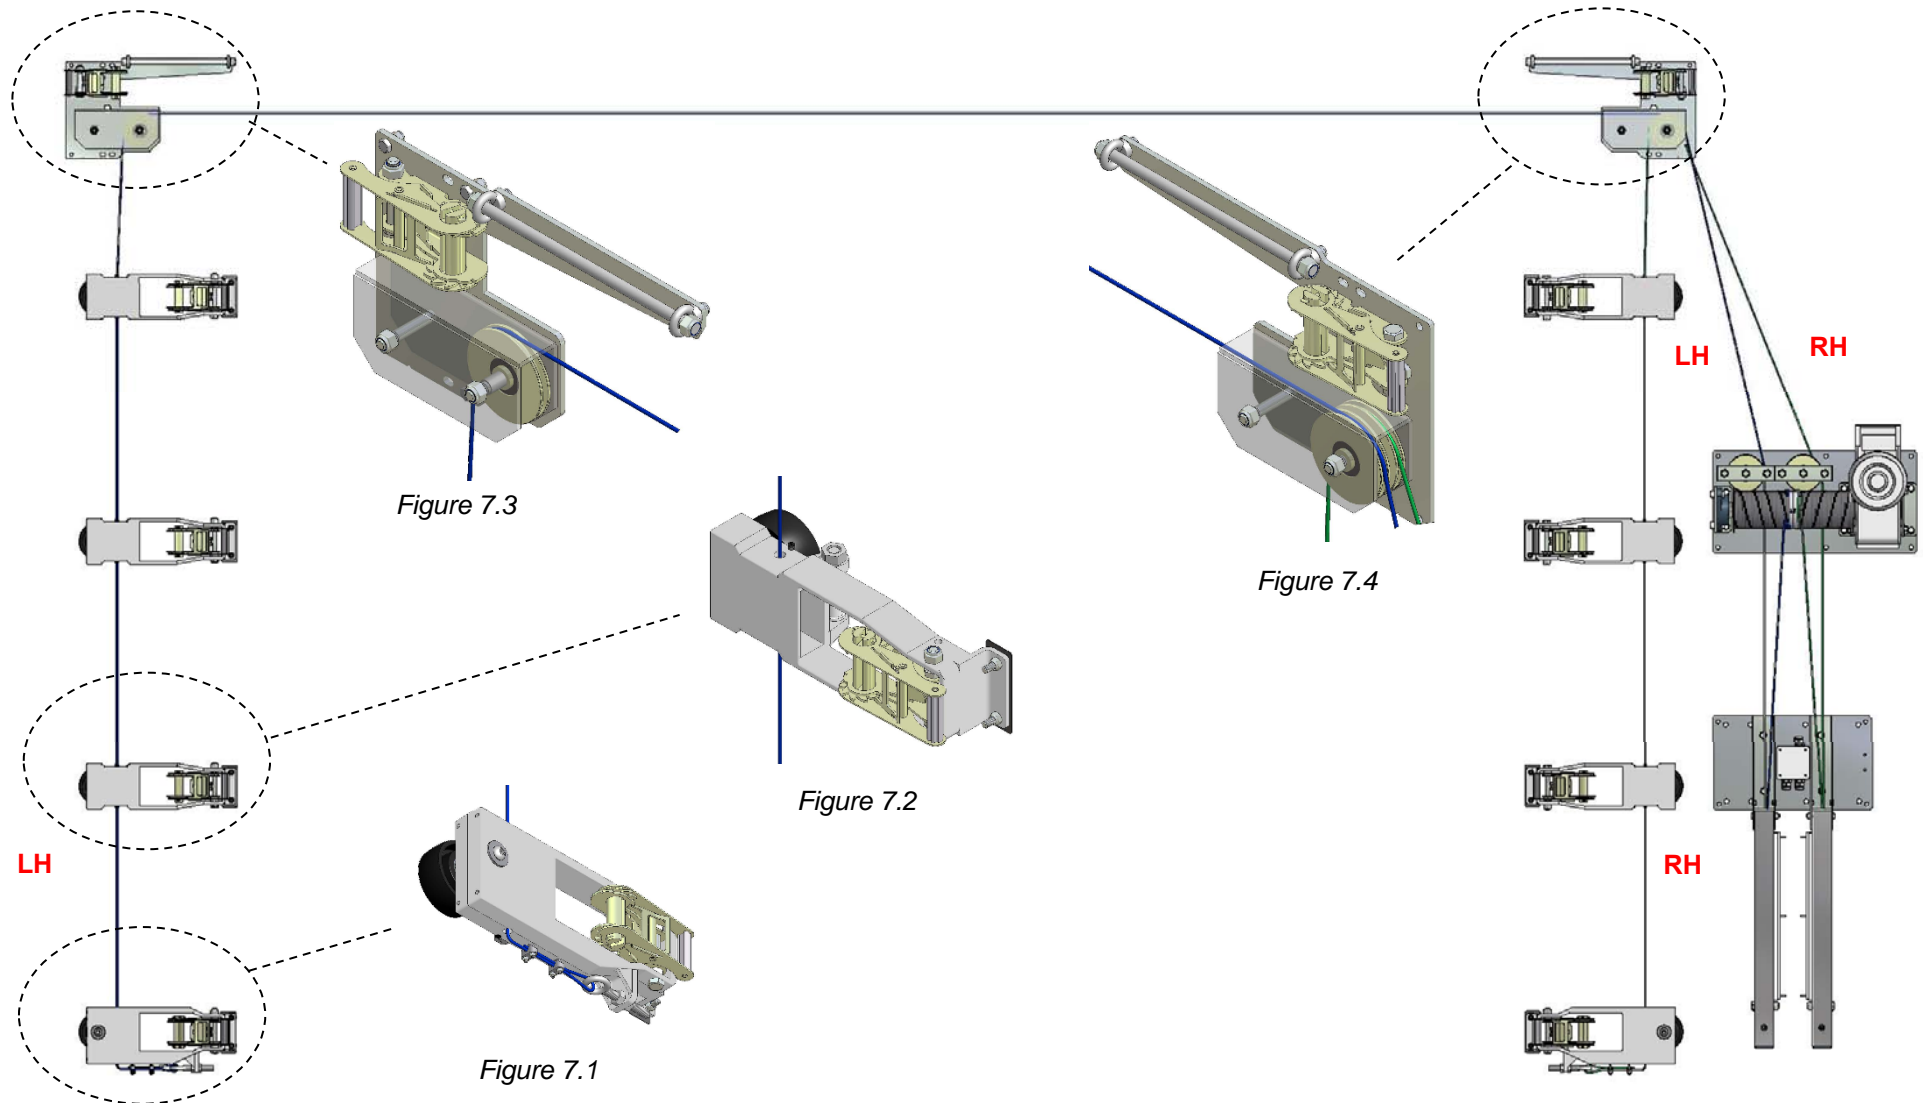
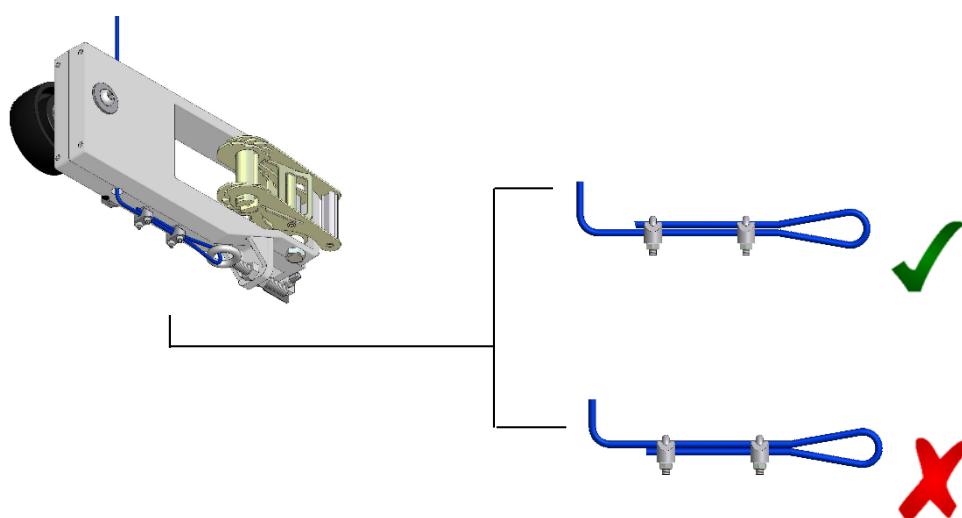

Figure 7
Figure 9
3.3 Thread cables (I1) as indicated in Figures 7 and 8. Starting at the Lower Trolley wrap the cable around the adjusting eyebolt and secure with two 5mm Cable Grips (supplied), ensure the bridge section of the grip is against the cable under tension (Figure 9).